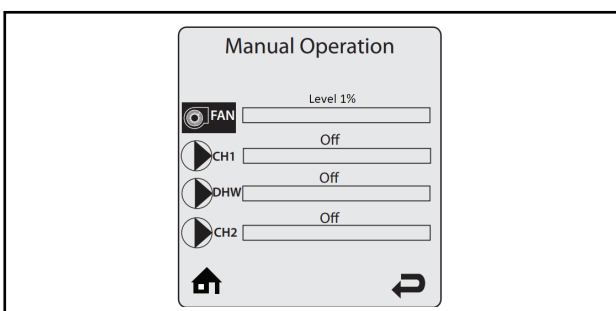

Fig .9
- Operate appliance to Low fire 1% (fig.9).
- Operate appliance at low fire 1% in service mode (Fig.9).